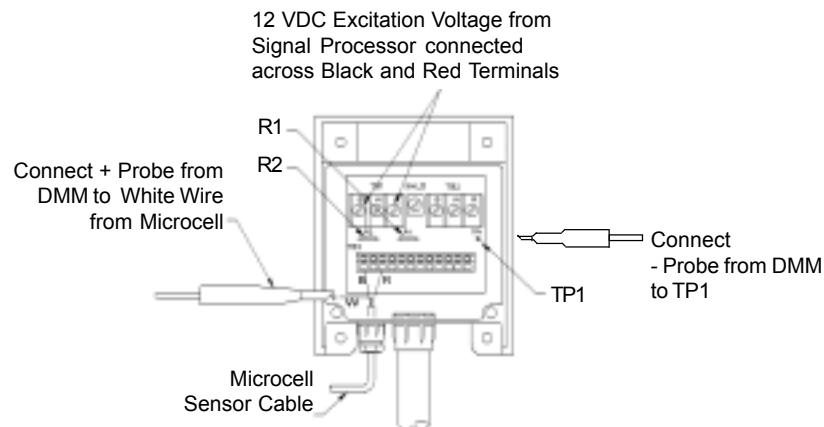

Figure G-1. Using DMM to Monitor Voltage Output
1. See Figure G-1. Connect the red wire from the Microcell cable to the R terminal on terminal block TB3 in the junction box. Connect the black wire to the B terminal on TB3.